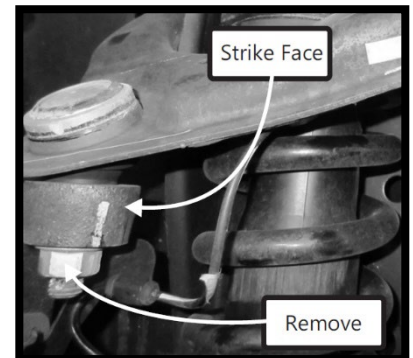

Fig 1: Strike the side of the upright
7. Using a hammer, strike the side of the upright to release the taper of the ball joint from the hub (Fig 1).